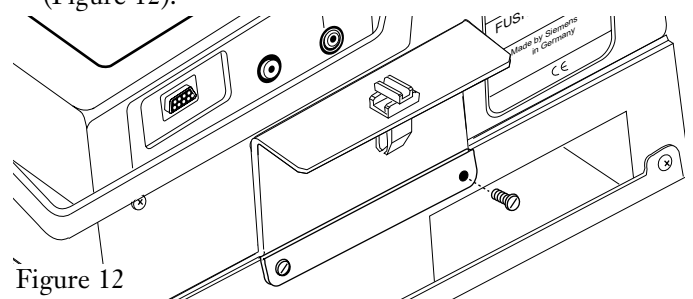

Figure 12
- g) Align the holes of the adapter plates with the threaded holes of the power supply and secure the two together with the four screws removed in step 5.5 a) (Figure 12).